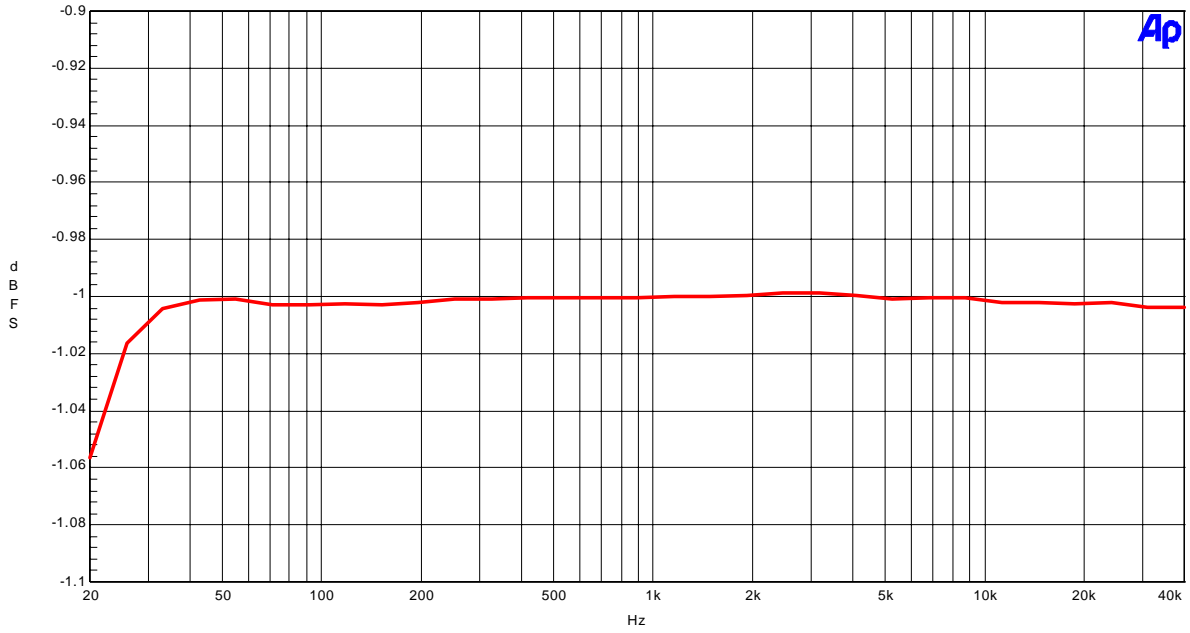

Figure 1-2-7. Frequency Response (-1dB input)
- Figure 1-2-7. Frequency Response (-1dB input)